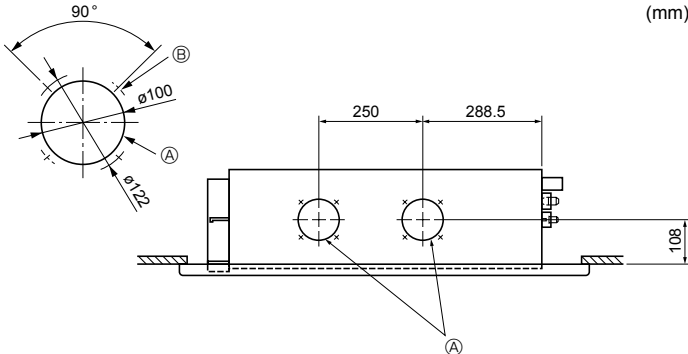

Fig. 2-10
- 2.5. Fresh air intake hole (Fig. 2-10)**
- ① Fresh air intake hole (Knock out)
② 4-ø2.8 burring hole